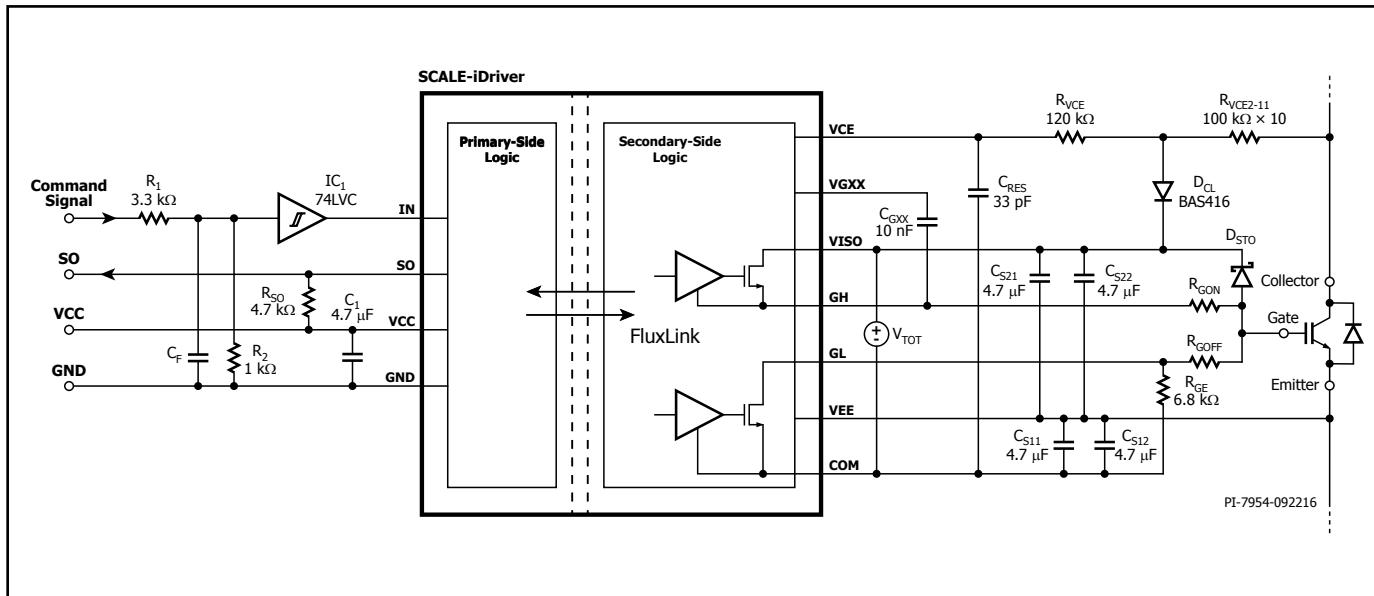

Figure 13. SCALE-iDriver Application Example Using a Resistor Network for Desaturation Detection.
The input (IN) and output (SO) logic is designed to work directly with micro-controllers using 5 V CMOS logic. If the physical distance between the controller and the SCALE-iDriver is large or if a different logic level is required the resistive divider in Figure 5, or Schmitt-trigger ICs (Figures 13 and 14) can be used. Both solutions adjust the logic level as necessary and will also improve the driver's noise immunity.
and power-down. Any supply voltage related to VCC, VISO, VEE and VGXX pins should be stabilized using ceramic capacitors C_1 , C_{S1X} , C_{S2X} , C_{GXX} respectively as shown in Figures 13 and 14. After supply voltages reach their nominal values, the driver will begin to function after a time delay t_{START} .
Figures 13 and 14 show the schematic and typical components used for a SCALE-iDriver design. In both cases the primary-side supply voltage (V_{VCC}) is connected between VCC and GND pins and supported through a supply bypass ceramic capacitor C_1 (4.7 μ F typically). If the command signal voltage level is higher than the rated IN pin voltage (in this case 15 V) a resistive voltage divider should be used. Additional capacitor C_F and Schmitt trigger IC₁ can be used to provide input signal filtering. The SO output has 5 V logic and the R_{SO} is selected so that it does not exceed absolute maximum rated I_{SO} current.
Figure 13 shows how switch desaturation can be measured using resistors $R_{VCE2} - R_{VCE11}$. In this example all the resistors have a value of 100 kΩ and 1206 size. The total resistance is 1 MΩ. The resistors should be chosen to limit current to between 0.6 mA to 0.8 mA at maximum DC-link voltage. The sum of $R_{VCE2} - R_{VCE11}$ should be approximately 1 MΩ for 1200 V semiconductors and 500 kΩ for 600 V semiconductors. In each case the resistor string must provide sufficient creepage and clearance distances between collector of the semiconductor and SCALE-iDriver. The low leakage diode D_{CL} keeps the short-circuit duration constant over a wide DC-link voltage range.
Figure 15 shows the recommended PCB layout and corresponds to the schematic in Figure 13. The PCB is a two layer design. It is important to ensure that PCB traces do not cover the area below the desaturation resistors or diodes D_{VCE1} and D_{VCE2} . This is a critical design requirement to avoid coupling capacitance with the SCALE-iDriver's VCE pin and isolation issues within the PCB.